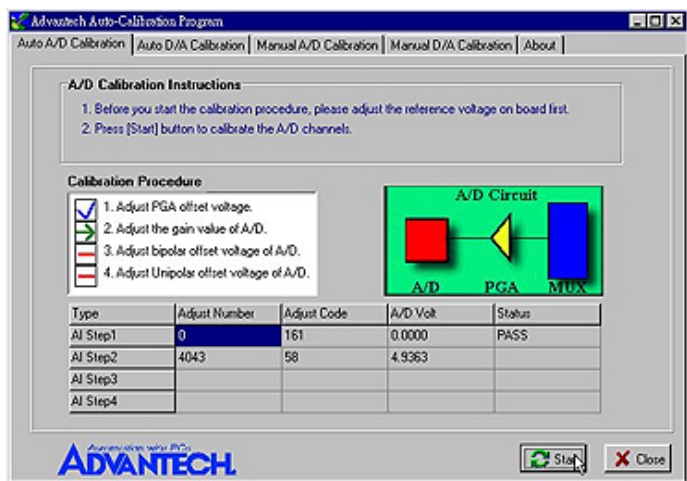

Figure 6-6: A/D Calibration Procedure 2
Step 6: The second A/D calibration procedure is enabled (Fig. 6-6)